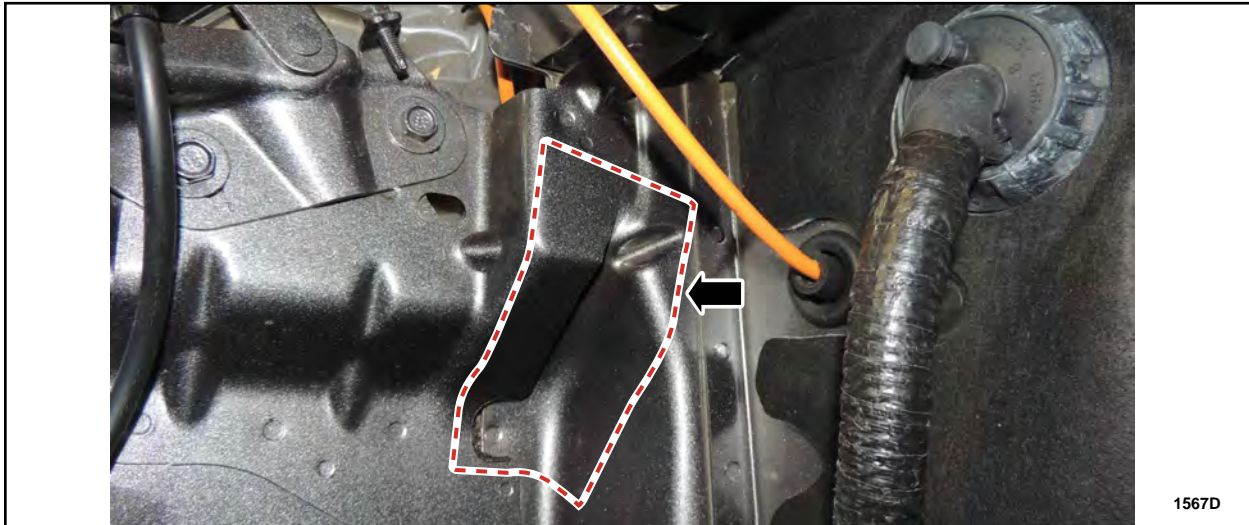

FIGURE 9
10. Clean the body joint between the right inner fender and dash panel with a Motorcraft® Metal Surface Prep Wipe or equivalent. See Figure 9.